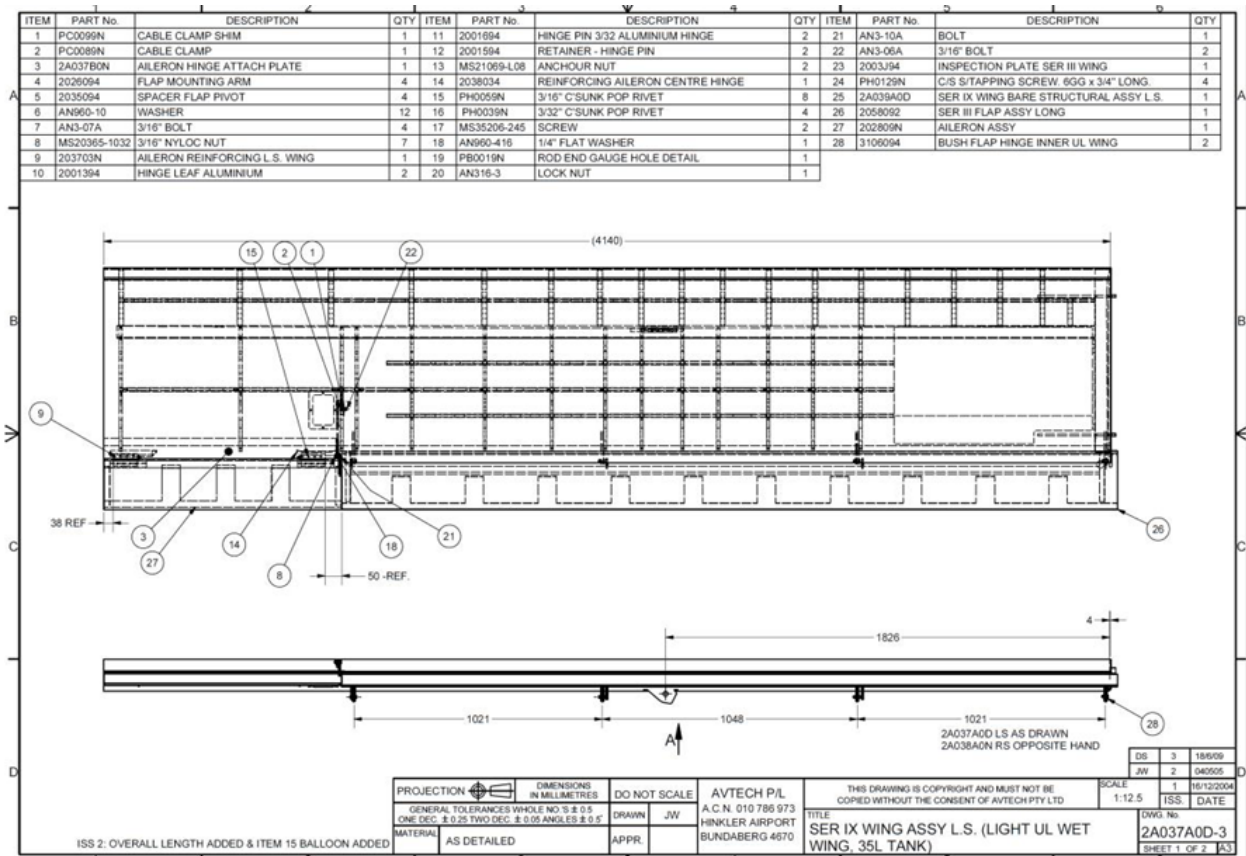
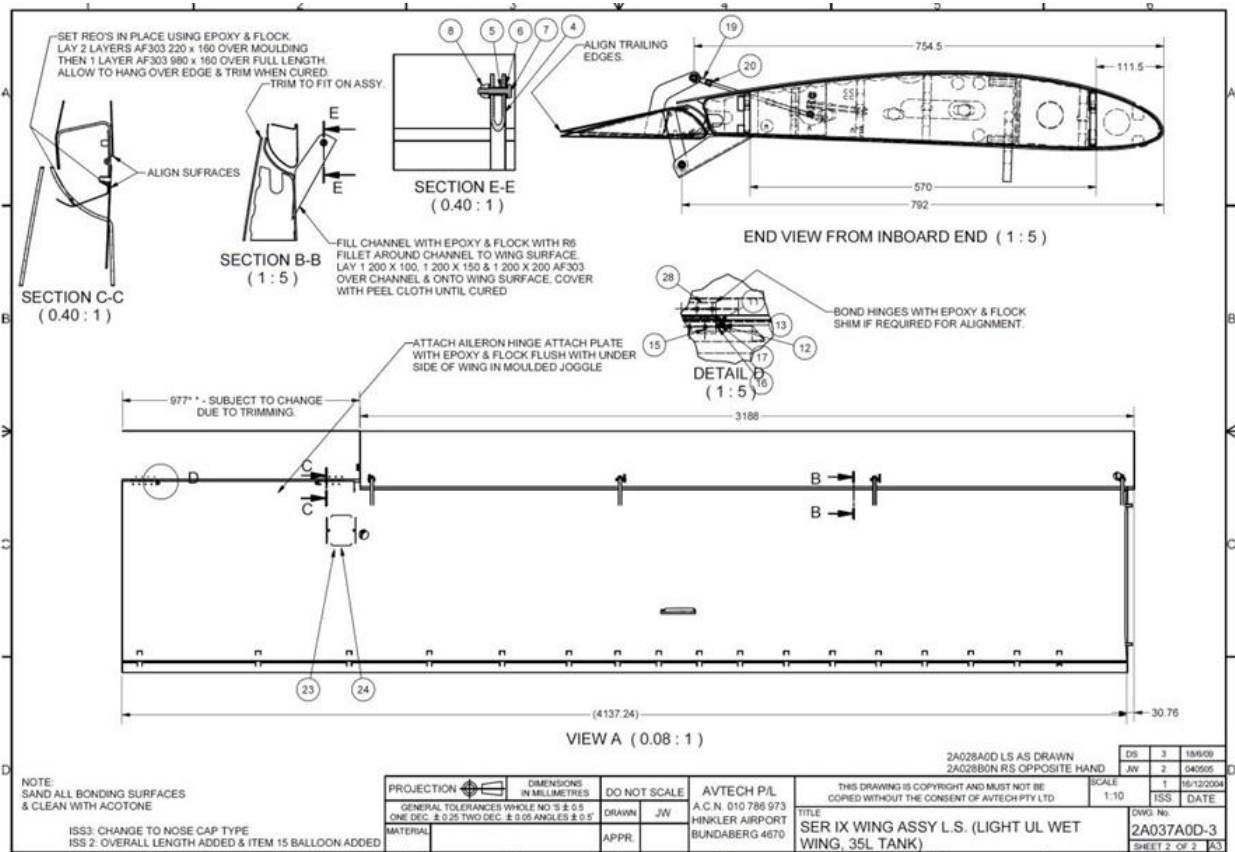

Figure 62 – J170-UL Wing Assy Sheet 1 Ser IX (J170)
Figure 63 – J170-UL Wing Assy Sheet 2 Ser IX (J170)
- Some J170 Variants are limited to a MTOW of 450kg and are fitted with a different wing assembly. For these aircraft, refer to Figure 62 and Figure 63 for details.